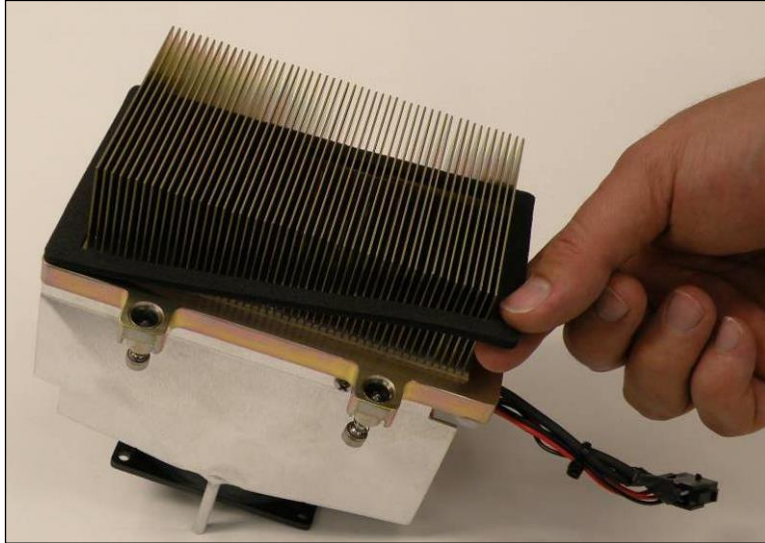

Figure 107. Removing the gasket
7. Remove the gasket (Figure 107).